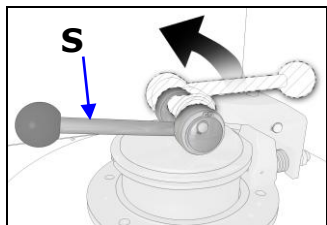

Fig.13 Eccentric lever
- You can then close the hood and start the RS200 (Fig. 13 Eccentric lever)